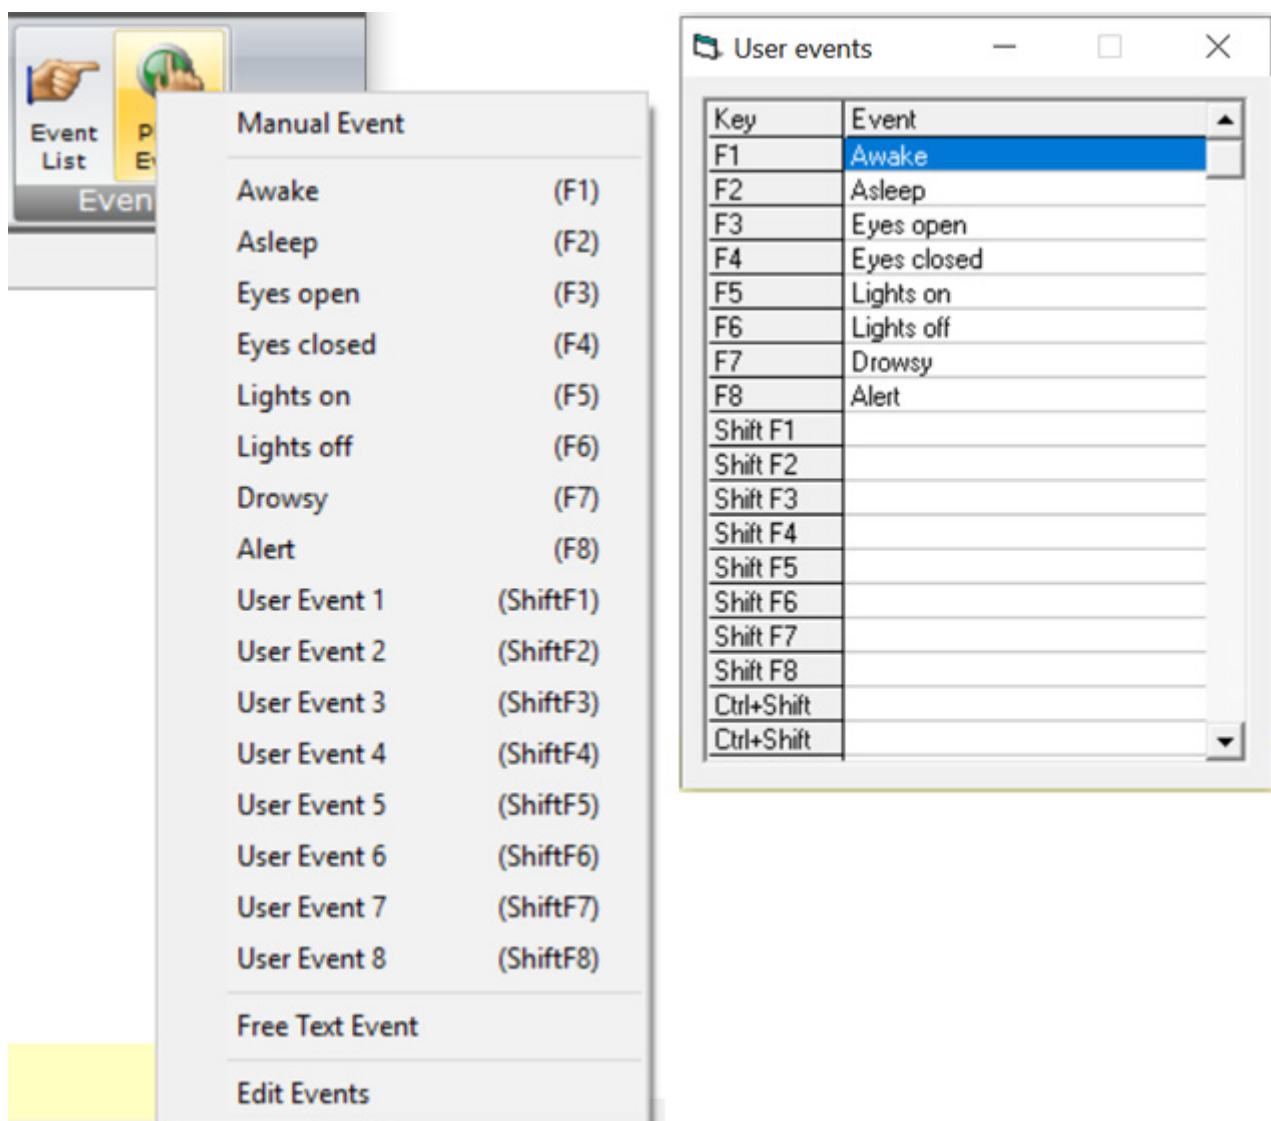

Figure 37: User Events
- **External Event:** An External Event is logged either when the user places a "Manual event" from the Trackit Plus Software or when the patient presses the remote event pushbutton (connected via the 3.5mm jack on the amplifier). To place a Manual Event, press the "Place Event" button on the Home toolbar and select "Manual Event" from the menu (see *Figure 37*).
To place a user event during a recording, either use the keyboard shortcut keys (F1- F8 keys, Shift F1 – F8 or Control + Shift F1 – F8 keys.) or use the "Place Event" button on the Home toolbar and select the required event from the menu (see *Figure 37*).